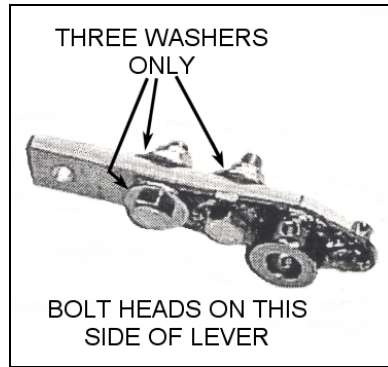

Figure 5. Bolt Levers Together
2. The extension lever must remain aligned with the run/stop lever after the levers are bolted together (**Figure 5**).